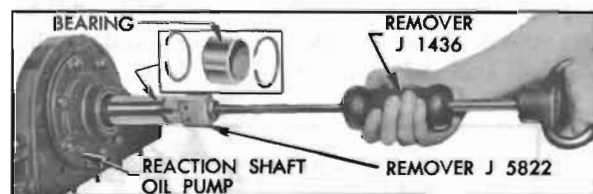

Figure 5-65—Removing Input Shaft Bearing
2. Inspect the input shaft bearing in front end of reaction shaft. If bearing is damaged or excessively worn, remove outer retaining ring and then remove the bearing, using Remover J 5822 installed on Remover J 1436. See figure 5-65. Oil pump must be in place to support the reaction flange during bearing removal.
13. Install pipe plugs in both accumulator bodies and install check ball and retaining pin in the high accumulator body. See figure 5-65.